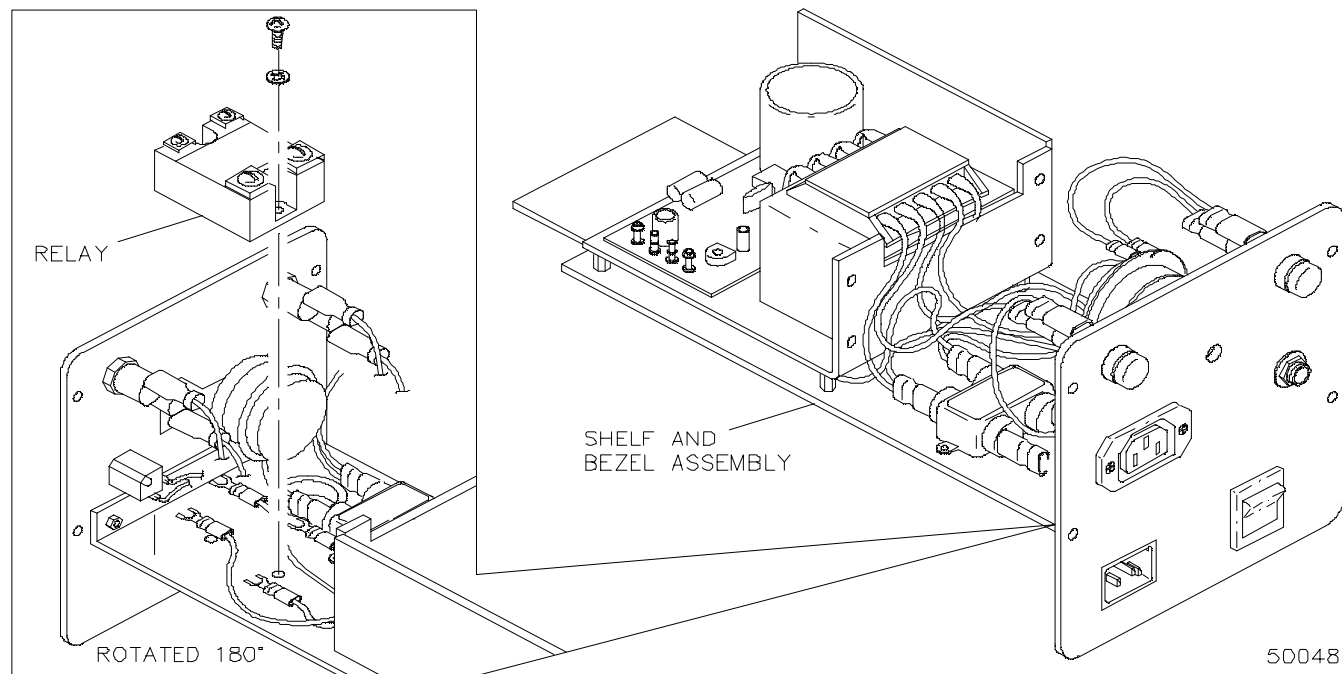

Figure 4-49. Shelf and Bezel Assy Relay
3. Remove four relay wires (**Figure 4-49**).